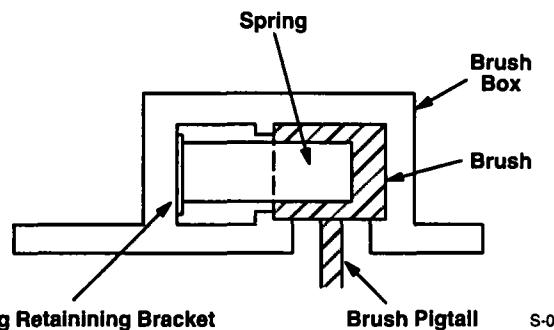

Figure 6-1. View Of Spring Assembly And Brush When Brush Cap Is Opened
### 6-3. BRUSH INSPECTION & REPLACEMENT (Figures 6-1 and 6-2)
12. Ensure that the spring is in the proper position as illustrated in Figures 6-1 and 6-2.